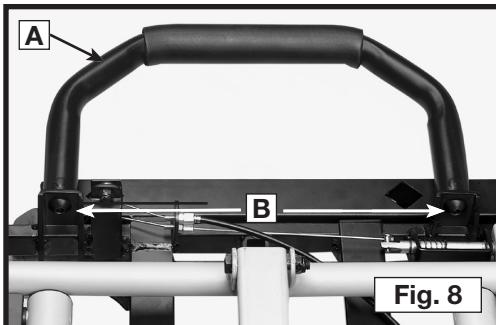

Fig. 8
1. Attach the handle (A) Fig. 8 to the end of the stand opposite the wheels with the two M8 x 25 mm buttonhead screws (B) and lockwashers from the inside.